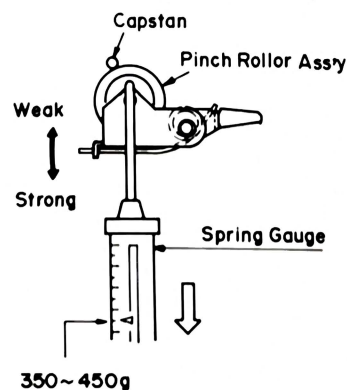

Figure 5
2. While keeping the unit in the playback mode, measure the pinch roller contact with a spring gauge (0 – 500g gauge) (Figure 5).